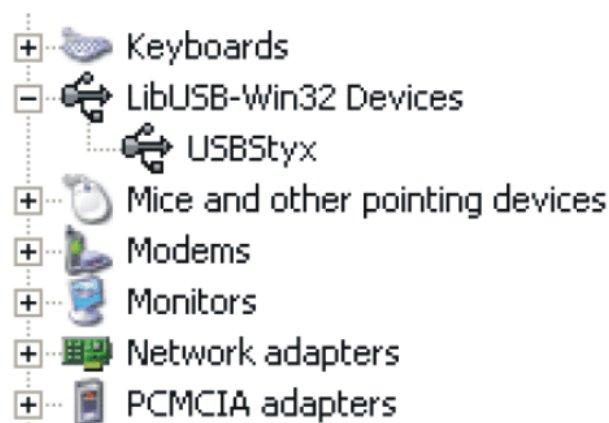

Figure 29. USBStyx Driver Verification Using Device Manager
6. You can verify the proper installation of the USBStyx driver using the Device Manager. Note that the first driver item, NI-VISA USB Devices, disappears and a new item, LibUSB-Win32 Devices appears, as Figure 29 shows.